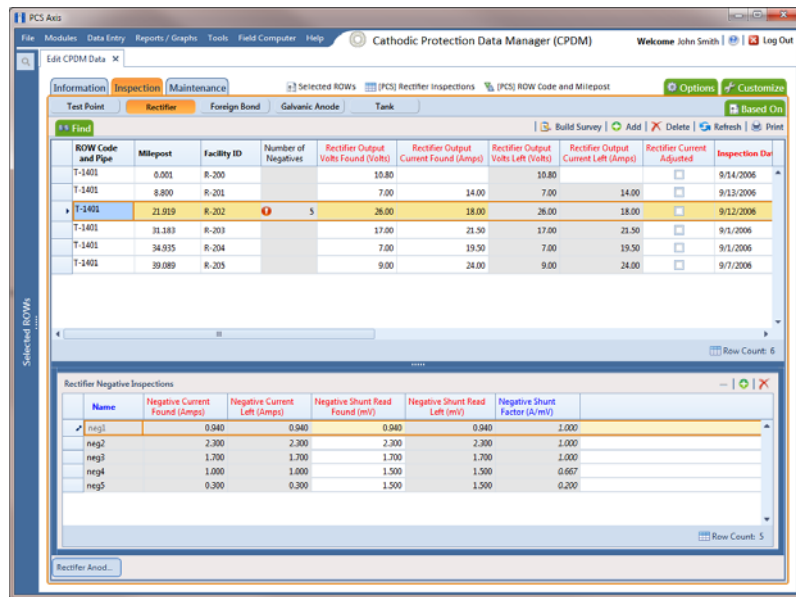

Figure 7-115. Rectifier Negative Inspections
- 5 Select a row of records in the *Rectifier Inspection* grid with the rectifier and negatives you want to add negative inspection readings. For example, the record for pipeline segment T-1401 with rectifier R-201 is selected in the following figure (Figure 7-115).
- Click  **Refresh** to update  derived fields, such as *Number of Negatives* shown in Figure 7-115.